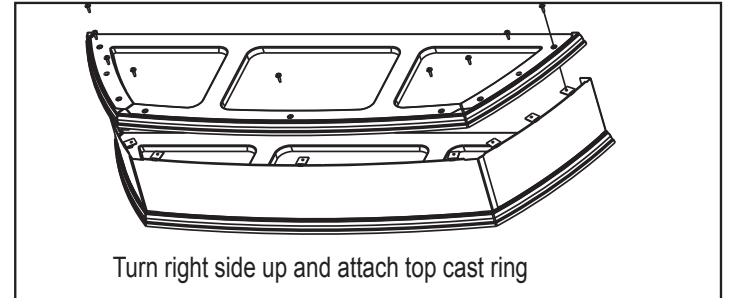

Figure 20.4
5. Now turn the cast ring right side up and attach the top cast ring . **Figure 20.4.**